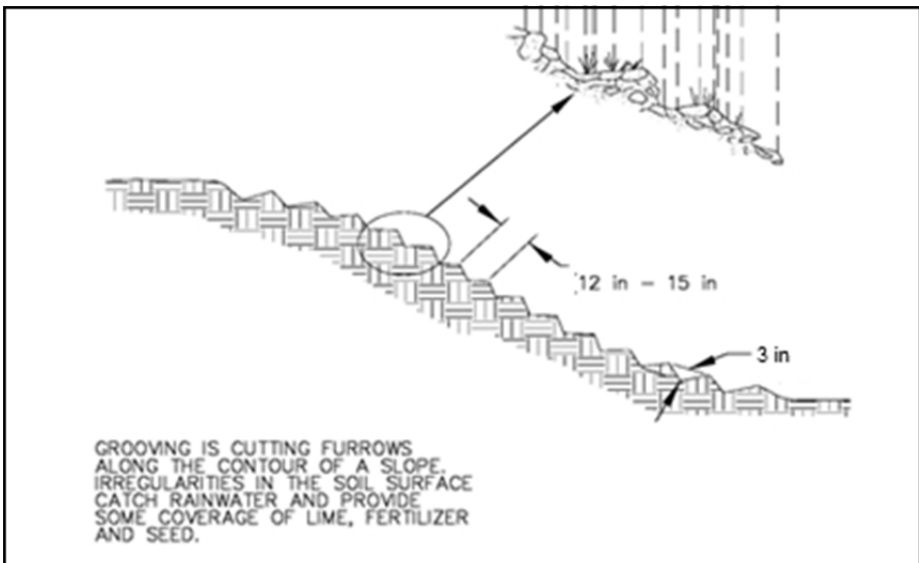

Figure 8: Grooving Slopes
- Grooves (**Figure 8**) should be at least 3 inches deep and no more than 15 inches apart.